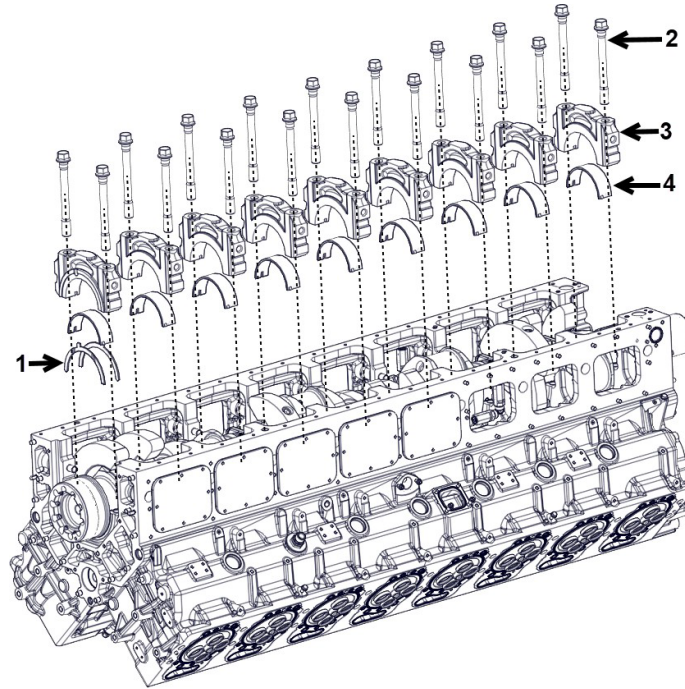

Figure 104.
2. Loosen and remove the main bearing cap bolts (Figure 104, Item 2).
3. Remove the main bearing caps (Figure 104, Item 3). Be sure to note the markings on the main bearing caps, or mark them yourself, so they can be reinstalled in the same order as they were removed. **DO NOT REMOVE THE BEARING INSERTS AT THIS TIME.**
4. Remove the lower main bearings (Figure 104, Item 4) and thrust plates (Figure 104, Item 1).